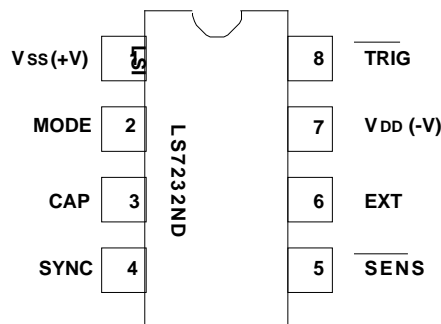

FIGURE 1
- LS7232ND (DIP); LS7232ND-S (SOIC) - See Figure 1